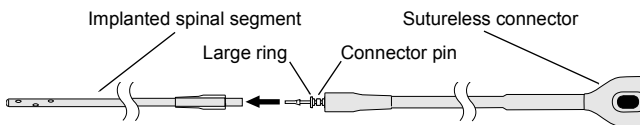

Figure 9. Inserting the connector pin.
5. On the pump segment, grasp the strain-relief sleeve near the connector pin and insert the connector pin into the spinal segment until the spinal segment is against the closest large ring. Be careful not to disrupt the catheter placement in the spine (Figure 9).